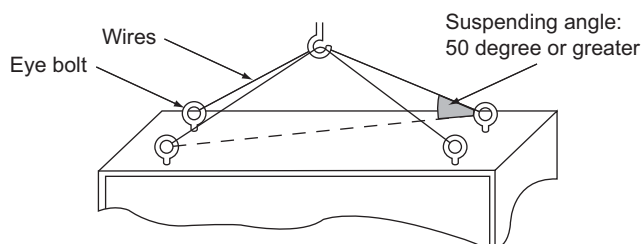

Figure 2.8 State of Suspension with Wires
**Note:** Use a wire long enough to ensure an angle of suspension that is at least 50 degrees. If not, the maximum allowable load of the eye bolts cannot be guaranteed. Refer to Figure 2.8 for details.